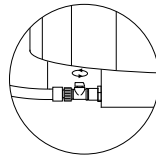

Figure 13.5d
4. Turn the hose bib switch to the open position to release the water, Figure 13.5d.